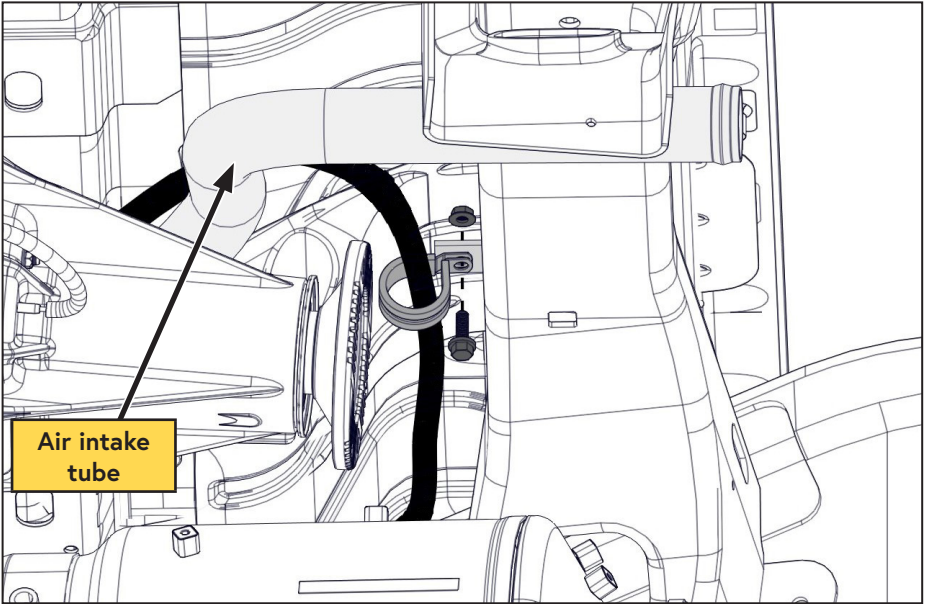

Figure 59 — Route discharge hose
- ☐ Route the hose over the air intake tube, securing it to the OEM frame mounting tab using the remaining P-clip, M8 fastener, and M8 nut (Figure 59).